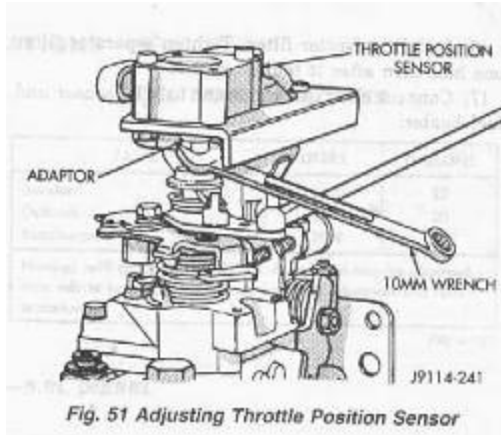

Figure 2
1. Right near the top of the shaft where it first comes out of the TPS body, are two "flats" where you put your open end wrench to adjust. See figure 2.